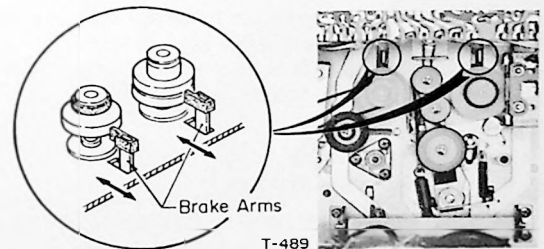

Fig. 4-7 Brake Tension Adjustment
4. If brake action is too "tight" or "loose", adjust by bending the arms of the Brake Bracket in or out as shown by the arrows in Fig. 4-7.